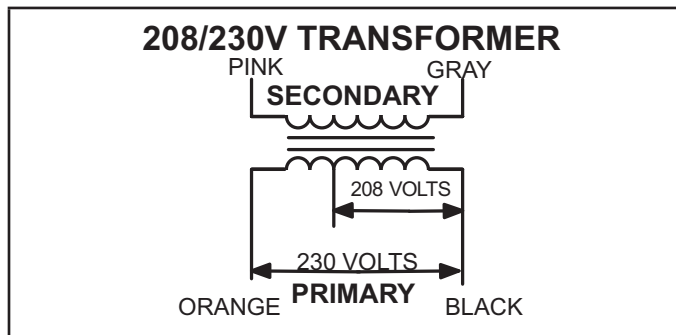

Figure 5
All use a single line voltage to 24VAC transformer mounted on the hinged control panel. Transformer supplies power to control circuits in the unit. The transformer T1 is rated at 92VA and is protected by a 6 amp circuit (CB8). The transformer T43 is rated at 70VA and is protected by a 3.5 amp circuit (CB31). The 208/230 voltage transformers use two primary voltage taps as shown in Figure 5, while the 460 (G) voltage transformer use a single primary voltage tap. All reheat units and units with phase detection components are equipped with transformer T43 located in the control box.